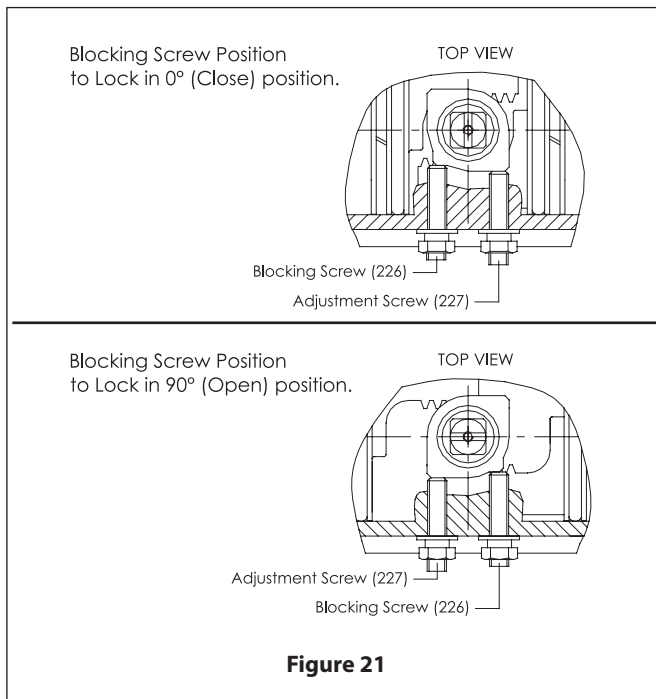

Figure 21
- B. Insert on the Adjustment Screw (227) and on the Blocking Screw (226) the Special Nut (228), the Washer (03) and the O-ring (11), see **(Figure 21)**.
- A. Before proceeding with the assembly of the Adjustment and Blocking Screws in the body, check the requested stop position. If the stop position is fully close (0°) or fully open (90°), **Figure 21**. Attention: when the screws are fitted, the actuator position must be $0^\circ \pm 2^\circ$ or $90^\circ \pm 2^\circ$.
- B. Insert the Blocking Screw (226) and the Adjustment Screw (227) into the Actuator Body until the desired lock position is achieved then tighten the Special Nut (228), see **(Figure 21)**.